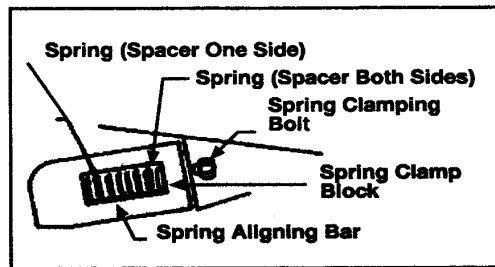

FIGURE 12: SPRING ARRANGEMENT
3. Loosen the spring clamping screws (Q) enough to permit removal of the clamping blocks (R). If necessary, use penetrating oil. Remove the old leaf springs (T).
4. Install new springs one at a time, starting with a single spacer spring with the spacers toward the magnet. The springs will have an off-color stripe on one end; all springs should be installed with this stripe on the same side, and this is the side that should be aligned to the alignment bar. Continue to install the remaining springs in this manner. If the arrangement is a split-spring stack, place a double spring spacer before the spacer block and as the last spring before installing the clamping blocks. (Refer to Figure 12)